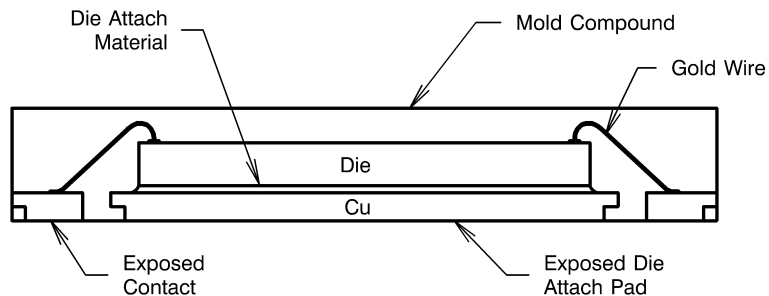
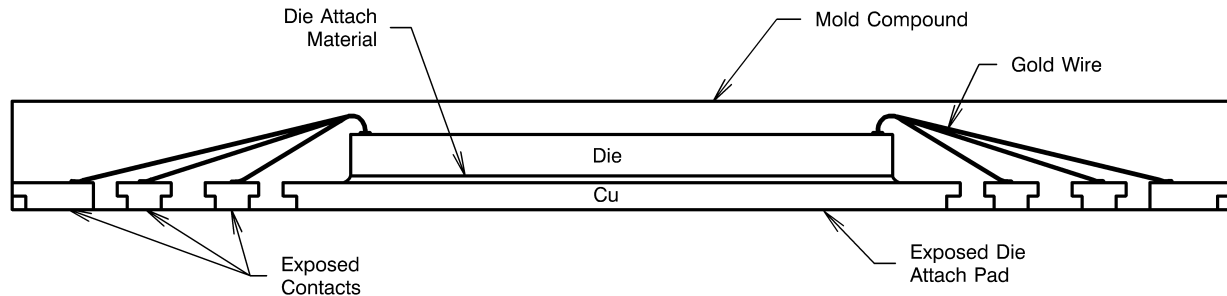
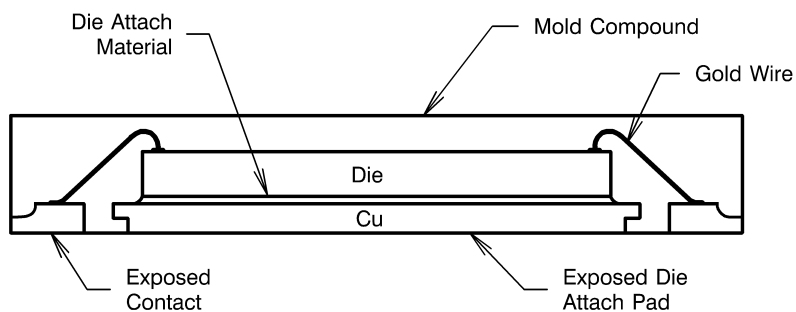

Figure 1. Pullback LLP Configuration
Figure 2. Pullback LLP Configuration with Power and Ground Rings
Figure 3. No Pullback LLP Configuration
- Construction of the LLP is illustrated in Figure 1, Figure 2, and Figure 3.